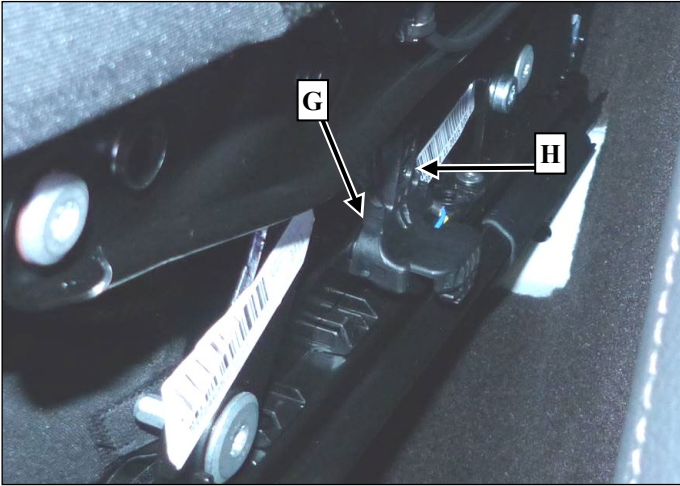

Figure 7
1.4. Clip Hall sensor (**G, figure 7**) into envisaged cutout in the seat adjustment unit.
1.5. Attach Hall sensor (**G, figure 7**) using screw (**H, figure 7**) to seat adjustment unit.